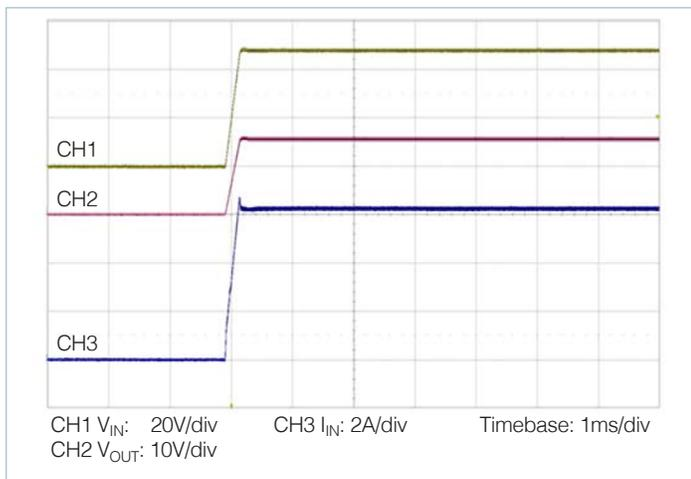

Figure 13 — Start up from application of  $V_{IN}$ ; VC pre-applied  $C_{OUT} = 800\mu\text{F}$
- **Normal operation (VC applied prior to  $V_{IN}$ ):** In this case the controller is active prior to ramping the input. When the input voltage is applied, the VTM module output voltage will track the input (See Figure 13). The inrush current is determined by the input voltage rate of rise and output capacitance. If the VC voltage is removed prior to the input reaching 26V, the VTM may shut down.